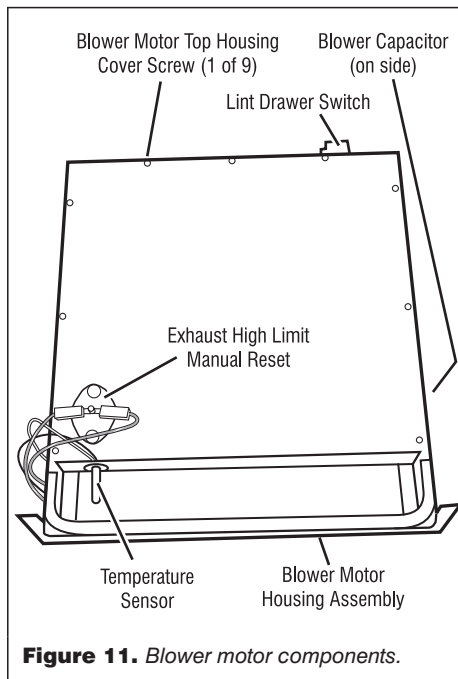

Figure 11. Blower motor components.
The blower assembly includes the temperature sensor, exhaust high limit, lint drawer switch, and blower motor. See figure 11.
- c) Pull the blower motor housing assembly far enough forward so you can access the lint drawer switch. See figure 11.